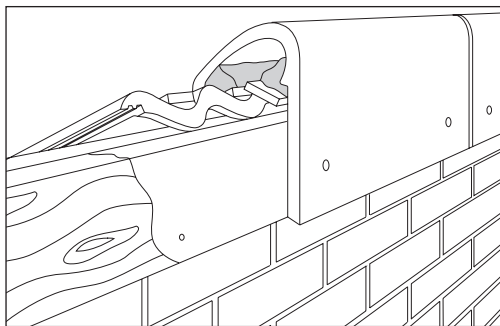

Fig 50 – Bedded mono-ridge with 2 mechanical fixings
Note: It is recommended that tiles are not swept up at verges (Fig 50).
- Lay mono-ridge tiles for Plain and Interlocking profiles as standard ridge tiles and mechanically fix each by using 2 No. 50mm x 10g stainless steel screws (supplied) to timber fascia behind vertical leg (Fig 50).